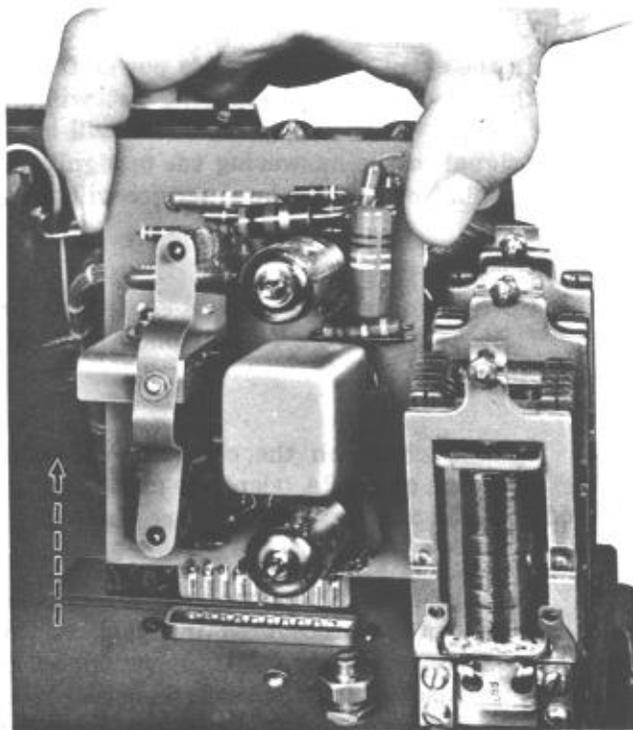

Fig. 4 - Amplifier Removal
3. Grasp the amplifier as shown in Fig. 4 and rock gently from side to side while exerting an upward pull.